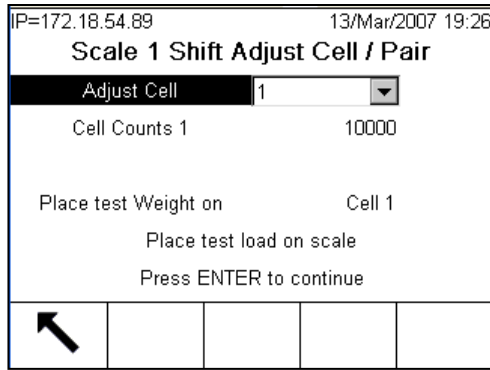

Figure 3-23: Shift Adjust Cell / Pair
5. The screen will then display Cell Counts 1. An on-screen prompt will appear (Figure 3-23):